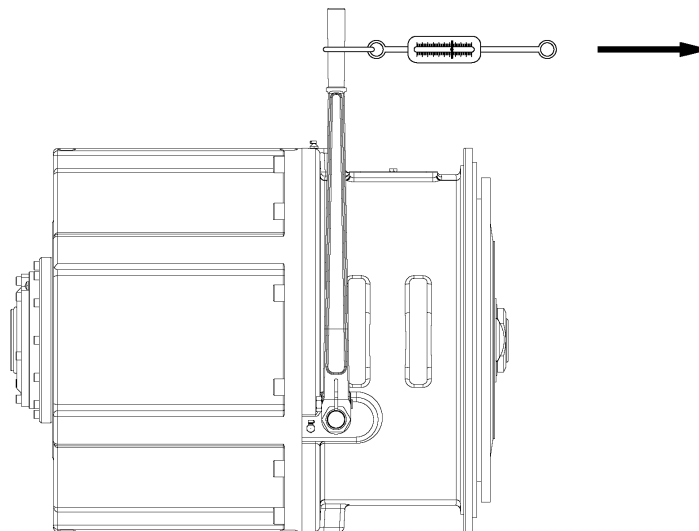

Figure 4
7.1.2 Check engagement force with a torque wrench using the cast hex on the lever or check hand lever engagement force using spring scale at hand lever length "A" shown in of Figure 4 & Table 1
- 7.2.4 Check engagement force with a torque wrench using the cast hex on the lever or check hand lever engagement force using spring scale at hand lever length "A" shown in of Figure 4 & Table 1